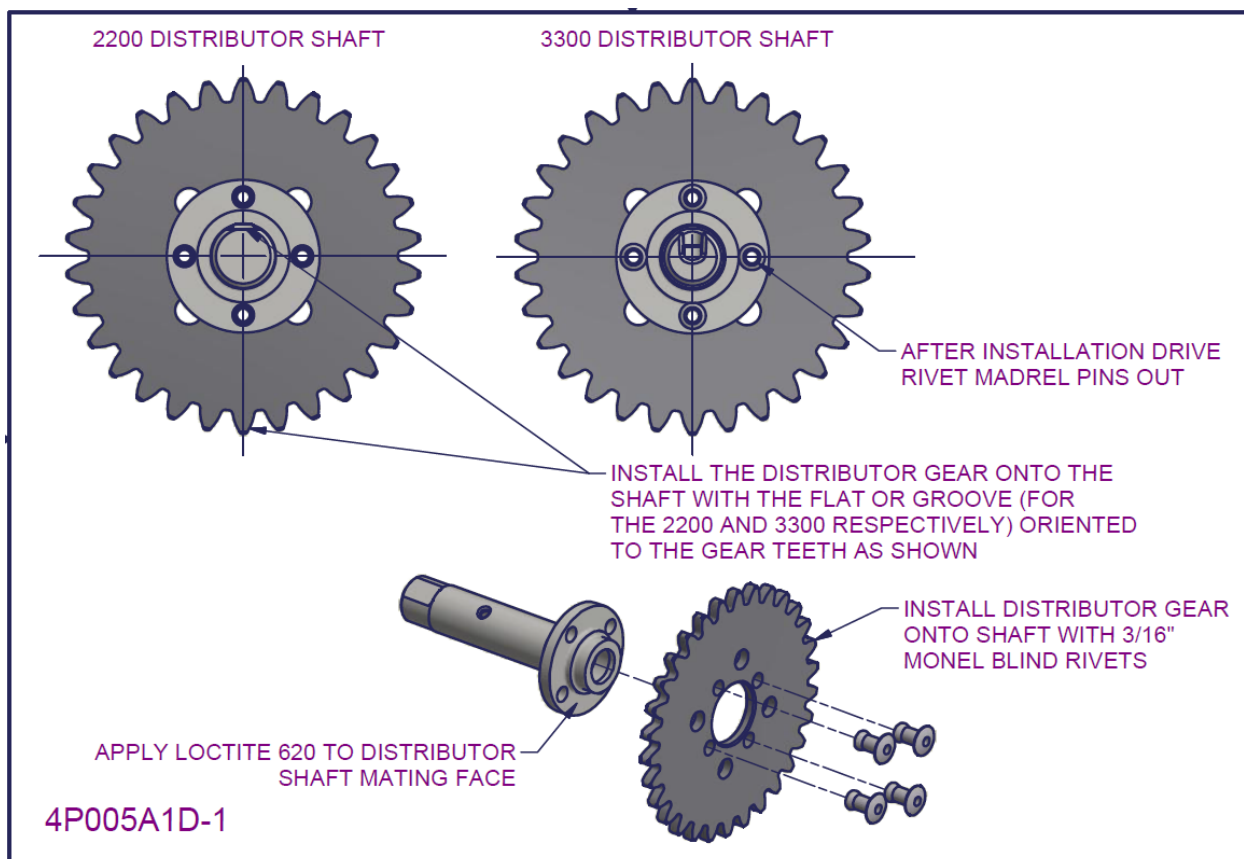

Figure 77 – 2200/3300 Distributor gearbox subassembly 4
- The flat face or machined groove (for the 2200 and 3300 respectively) on the distributor shaft must be aligned with the teeth of the gear as shown in Figure 77.